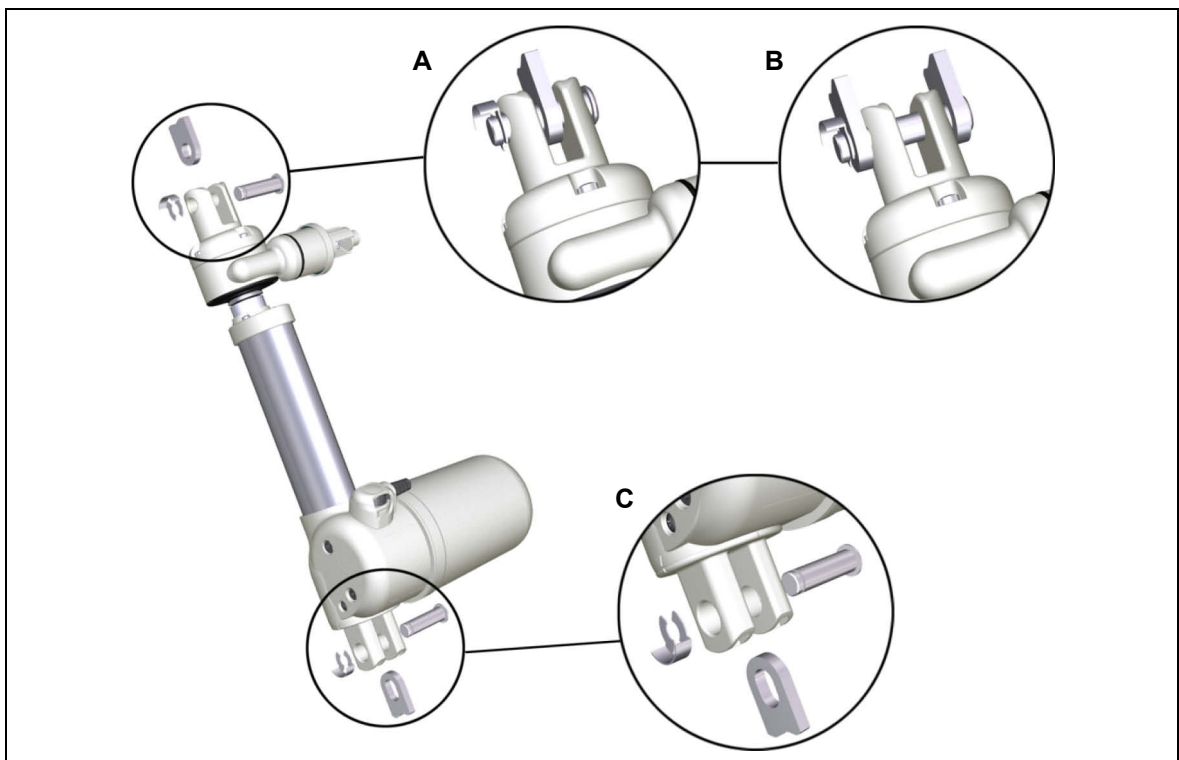

Figure 23 Recommended design of bracket
The brackets should be aligned precisely with each other. We recommend that only one mounting bracket is used on both sides of the drive ( as shown by **A** in Figure 23). When two mounting brackets are used, there is a greater risk that they are not properly aligned, resulting in a tilted drive unit.
The drive must be firmly attached, but there should also be a certain degree of movability at the mounting points. The drive must be mounted so that it is protected in all positions against twisting and bending. You can also use brackets with two mounting holes (as shown by **B** in Figure 23), but these must be exactly aligned so that the release force is not increased.
- We recommend: an oval slot (as shown by **C** in Figure 23) should have at least 2 millimetres of extra room.